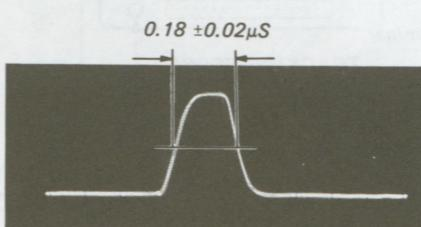

Fig. 5-107.
5. Adjust RV 2 for a pulse width of $0.18 \pm 0.02 \mu\text{s}$. (See Fig. 5-107.)